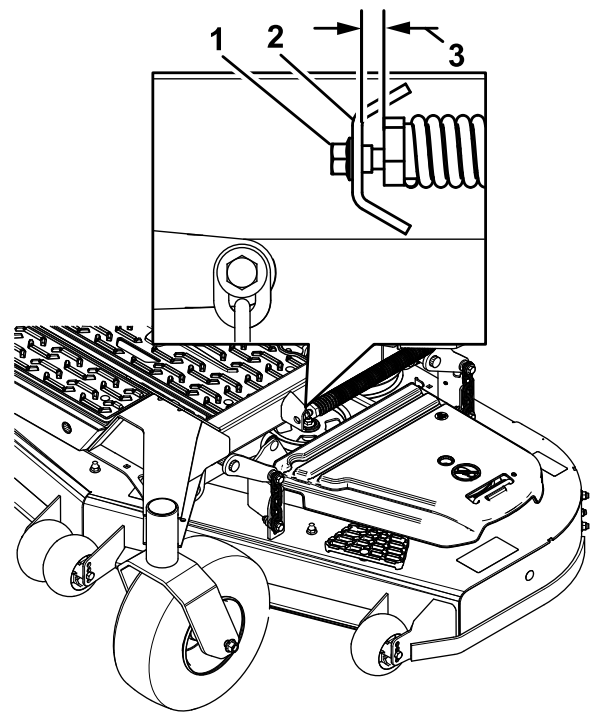

Figure 98
10. Slowly loosen the adjusting screw on the lift-assist spring until you can remove the screw (Figure 98).